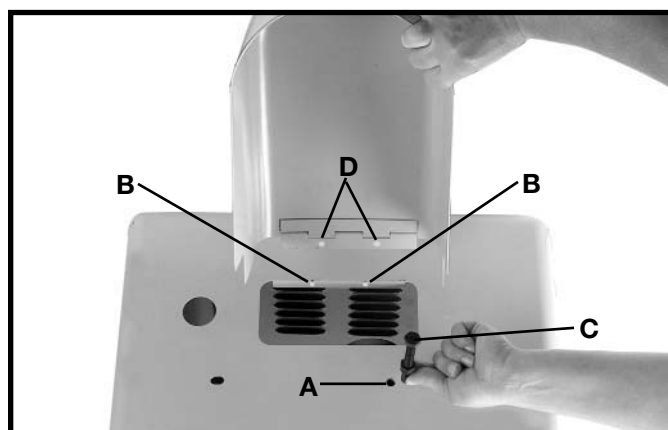

Fig. 10
24. Thread the M8x1.25x100mm hex head screw (C) into the hole (A) Fig. 10, in the top of the stand.
26. Align the holes (D) Fig. 10, on the hinges that are attached to the pulley guard, with the two holes (B) in the top of the stand.
27. Insert a M5x0.8x10mm pan head screw through the hole (D) Fig. 10, in the hinge, and the hole (B) in the top of the stand.
1. Place the stand top (A) Fig. 10, on a flat surface as shown.